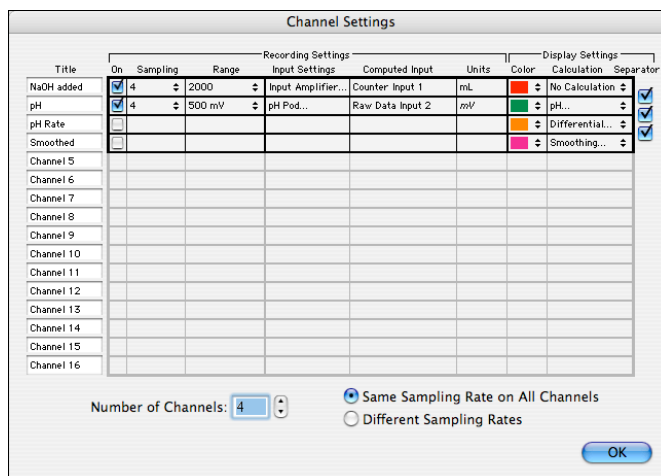

Figure 7. Use the Channel Settings dialog box to add two new channels to your titration file.
- In Chart, choose: Setup→Channel Settings. The Channel Settings dialog box will open (Figure 7).